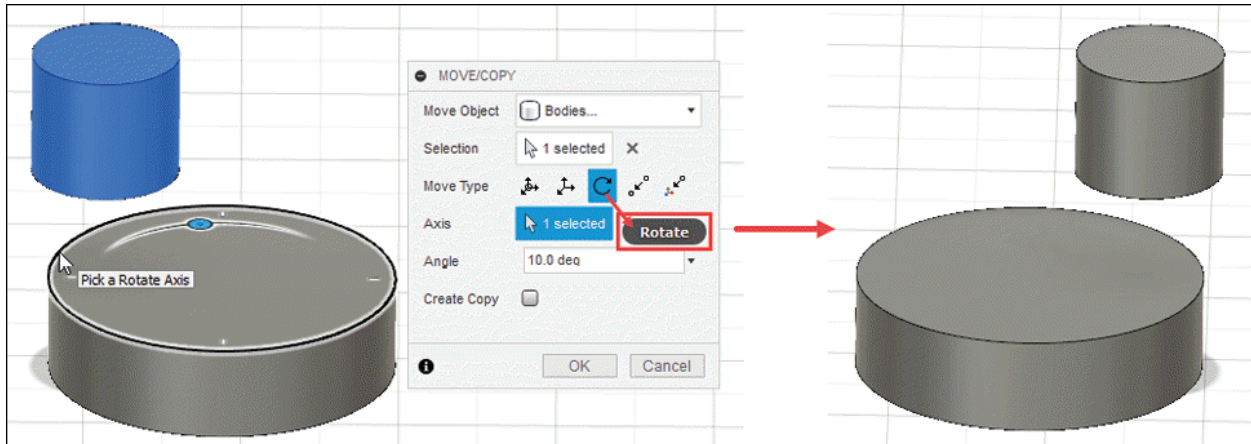

Figure-55. Rotate tool in Move Type section
- Move the drag handle as required or specify the value in the **Angle** edit box of **MOVE/COPY** dialog box; refer to Figure-55.